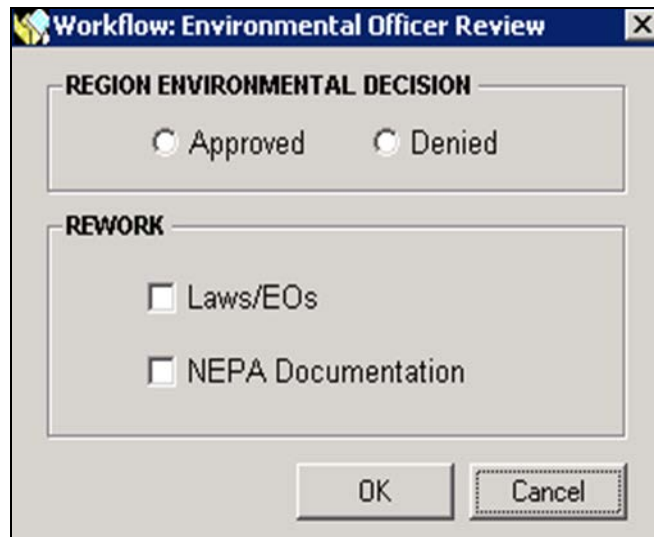

Figure 7-65: Environmental Officer Review Dialog Box
12. On the bottom left part of the NEPA Process tab, click the COMPLETE WORK STEP button. The Environmental Officer Review dialog box is displayed (Figure 7-65).